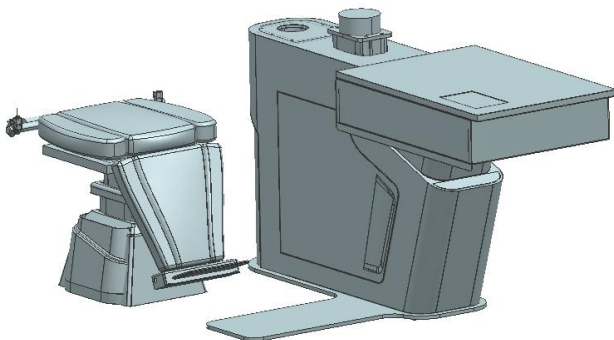

Figure 1
- ① Use a Phillips screwdriver to remove the 1M×1600M×900M wooden box Square fixing screws, open the lid of the wooden box;
- ② Remove the packaging material and remove the accessories (pillars, countertops, backs);
- ③ Use a wrench to remove the screws securing the plate;
- ④ Remove the host from the pallet; (see Figure 1)